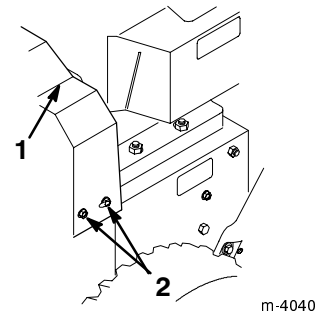

Figure 25
2. Remove the three screws that hold the belt cover in place and set the cover aside (Fig. 25).